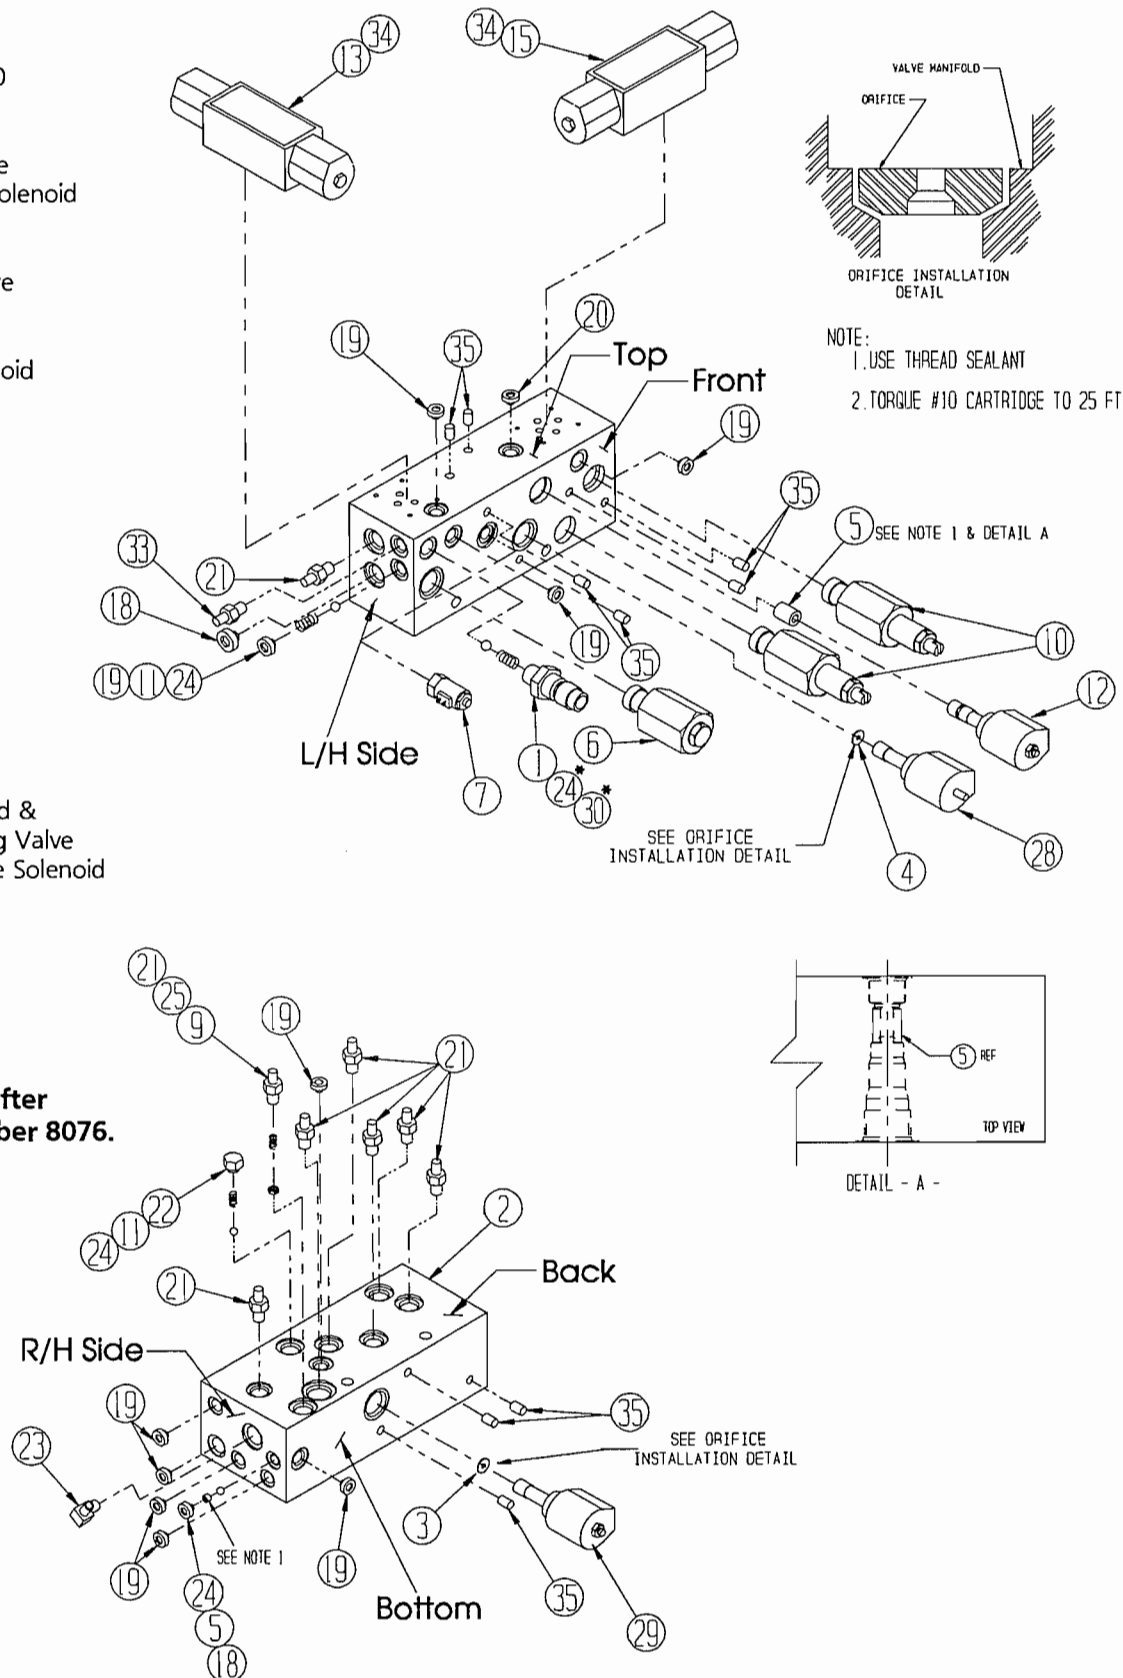

Figure 4-8: Hydraulic Manifold, Exploded View
## 4.7 Hydraulic Manifold (Figure 4-8)
**NOTE:** Mark all components as they are removed so as not to confuse their location during assembly. Refer to Figure 4-8 often to aid in disassembly and assembly.